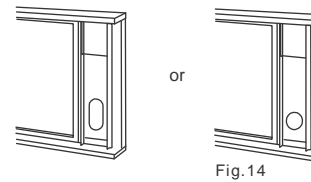

Fig. 14
3. Cut the foam seal(adhesive type) to the proper length and attach it on the top of the window. Shown as in Fig.14.